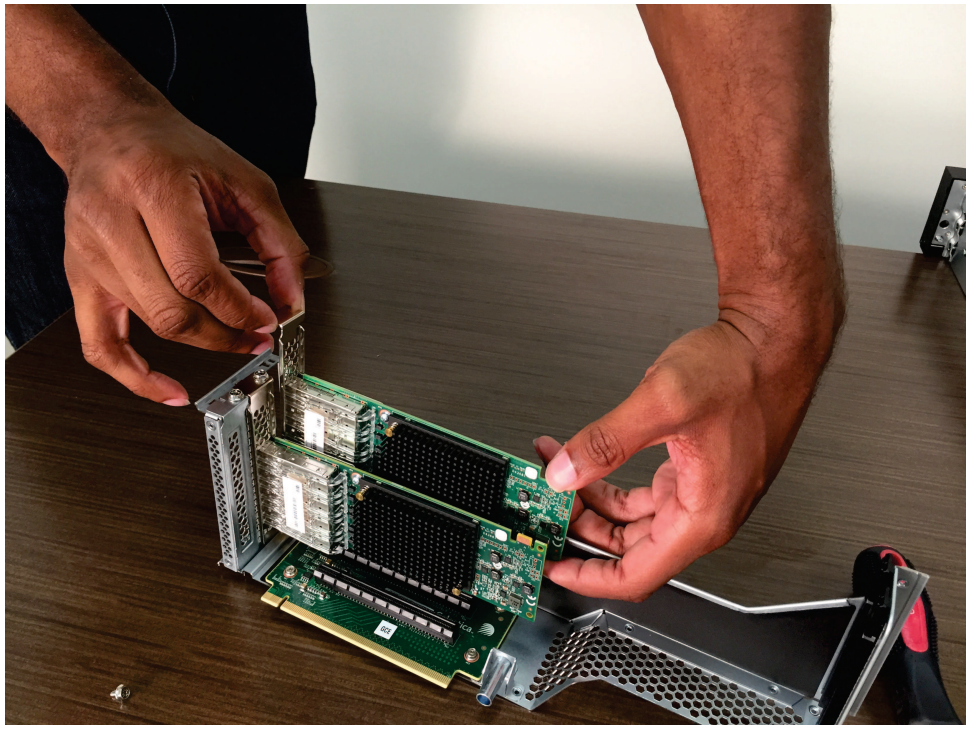

Figure 247. Removing the adapter from the adapter connectors
4. Carefully grasp the adapter by its top edge or upper corners. Pull the adapter from the PCI expansion slot, as shown in Figure 247.